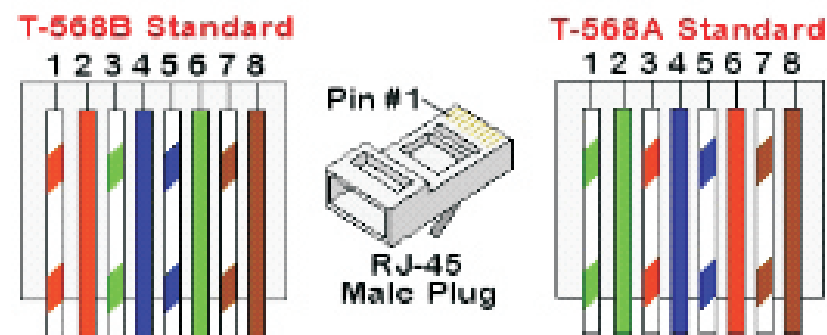

Fig 6.26 Standard cable wiring
- Insert the eight wires into an RJ45 connector, as described in Fig 6.26.